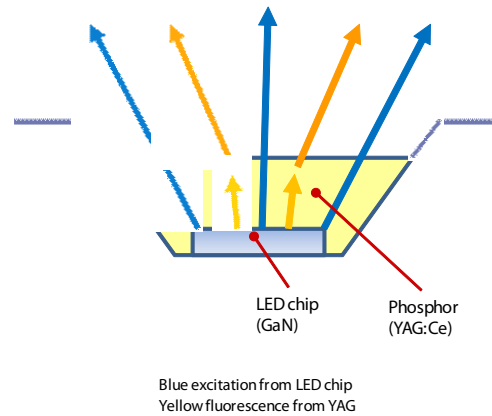

Figure 1. Blue-YAG white LED design form
There are generally two types of white LED design forms: (1) luminescent materials including phosphors or quantum dots mounted on an LED and (2) three LEDs of primary colors combined. The Fluorescence Property Utility was developed to facilitate the former. Referencing Figure 1, the earliest and most common commercially available design is a blue LED chip exciting a yellow YAG phosphor. Other designs of this type include red and green phosphors applied to a blue LED, a combination of two or more phosphors spanning blue to red applied to a UV or violet LED, and luminescent quantum dots applied to LEDs.